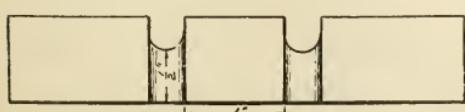

FIG. 196.—IRON FULLERED.
1. Fullering. — The head of the swivel must be left full size; so on each side of the head, fuller down to within $\frac{1}{2}''$ of the bottom, leaving a block 1" long, as in Fig. 196, in the middle of the bar. Fuller